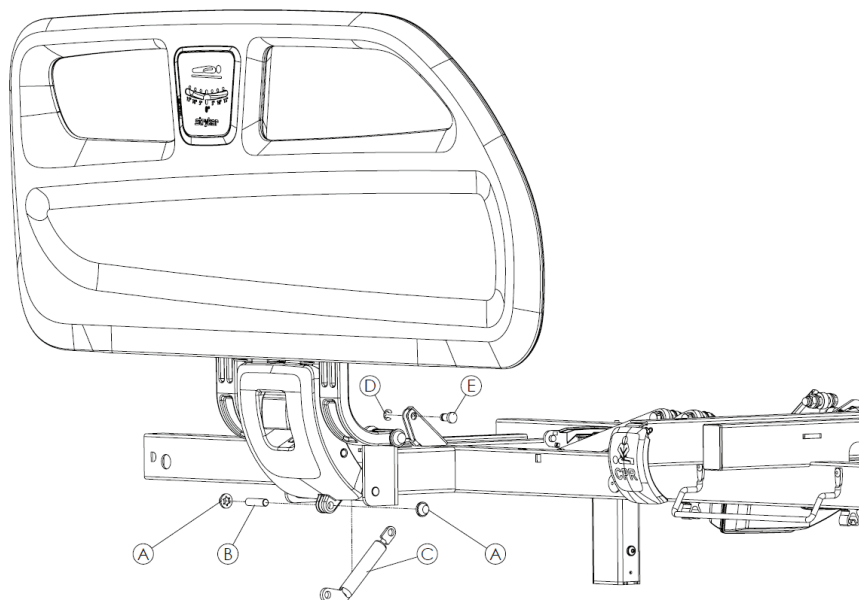

Figure 20 – Siderail gas cylinder, foot end assembly
5. Using a small slotted screwdriver, remove the e-clip (D) that secures the foot end siderail gas cylinder to the foot section frame. Discard the e-clip (Figure 20).
6. Remove the pin (E) that secures the foot end siderail gas cylinder to the foot section frame. Discard the pin.
7. Using a large slotted screwdriver and a hammer, remove one of the hat-shaped segments (A) that secure the bottom of the foot end siderail gas cylinder (C) to the siderail mechanism. Discard the hat-shaped segment.
8. Remove and discard the pivot pin (B) and foot end siderail gas cylinder (C).